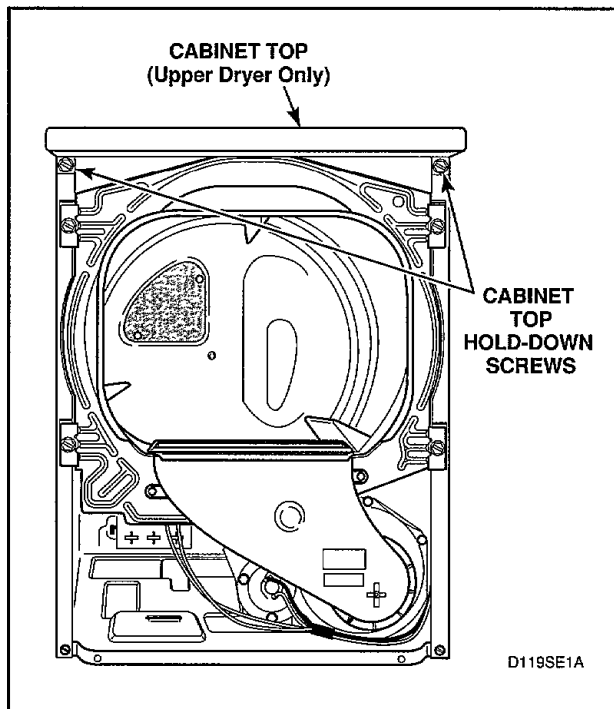

Figure 15
- Remove two screws holding cabinet top hold-down brackets to front flange of cabinet, *Figure 15*.